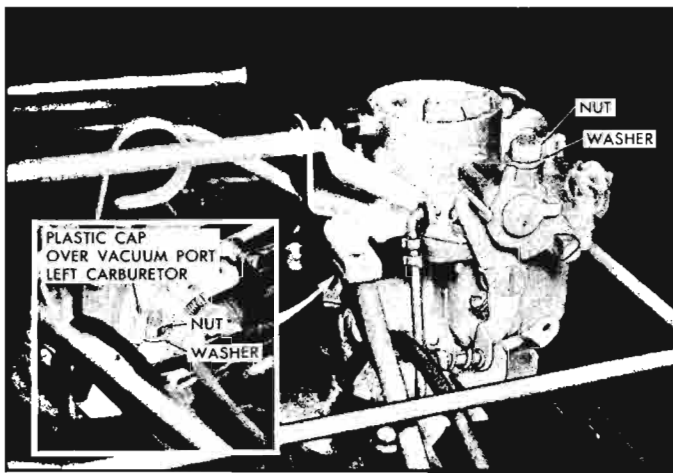

Fig. 9-16—Removing Carburetor
6. Remove two nuts and washers attaching carburetor to intake manifold studs (fig. 9-16).